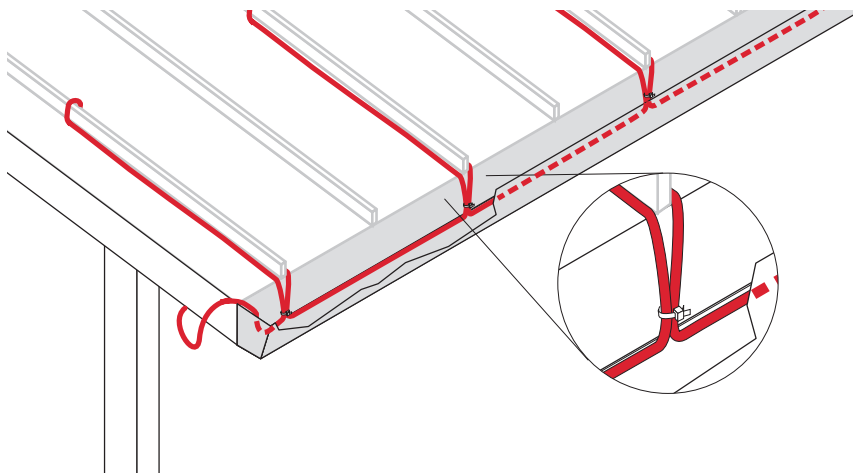

Fig. 8 Layout on a standing seam roof
For sloped standing-seam metal roofs, ice dams may form at the roof edge. To maintain a continuous path for melt water to run off, route the heating cable along the seams as shown in Fig. 8 and follow the attachment recommendations in "Step 6 Select attachment accessories and method" on page 115. Additional heating cable may be needed for gutters, downspouts, and valleys.
- Run the heating cable up one side of the seam, loop it over to the other side, and return it to the bottom of the gutter. Continue along the bottom of the gutter to the third seam and repeat the process (Fig. 8 on page 104). If the seams are more than 24 inches (60 cm) apart, trace every seam.
**Note:** Attachment methods are not shown in Fig. 8. For attachment methods, proceed to "Step 6 Select attachment accessories and method" on page 115.